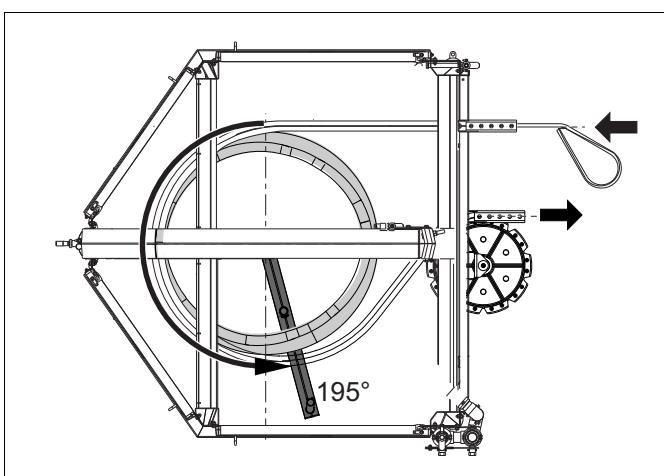

fig. 33 Outside washer, span arch greater than 180°
- Machine with a span arch greater than 180°. Adjust the outer washer to 195° by rotating it. See fig. 33.